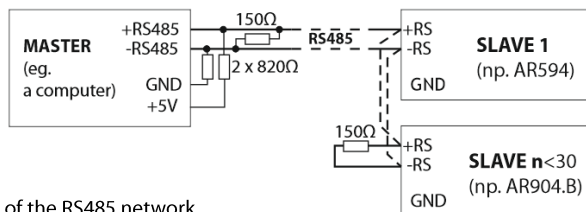

Fig.14. Pictorial diagram of the RS485 network
- termination and polarizing resistors when the MASTER is at the start of the line (Fig.14):